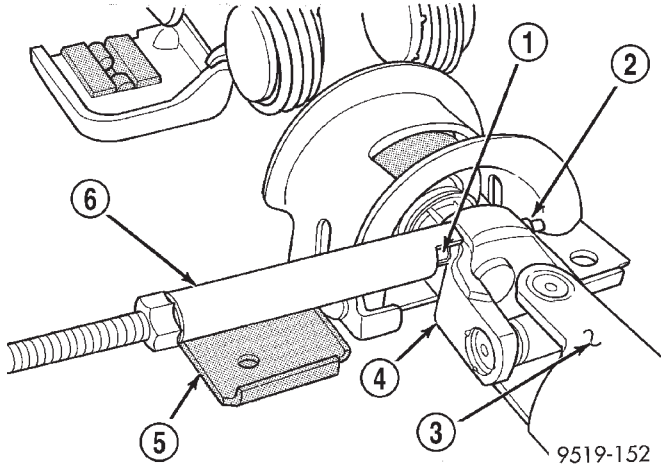

Fig. 29 Removing Roll Pin From Flex Joint
(1) Remove steering column assembly from vehicle. Refer to STEERING COLUMN in this section for the required removal procedure.
(2) Install Remover/Installer, Special Tool 6831-A, through center of roll pin in intermediate shaft's flex joint and install knurled nut (Fig. 29).
(3) While holding hex on end threaded rod, tighten the nut on threaded rod of Remover/Installer. This will pull the roll pin out of the intermediate shaft's flex joint.